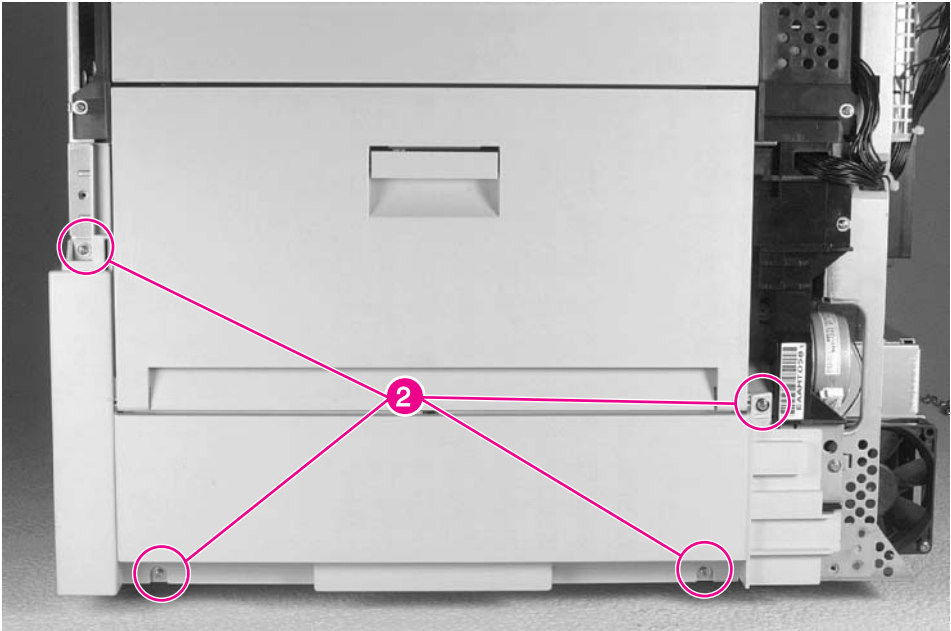

Figure 6-17 **Right Lower Door Assembly (2 of 3)**
- 4 Remove 4 screws (figure 6-17, callout 2).